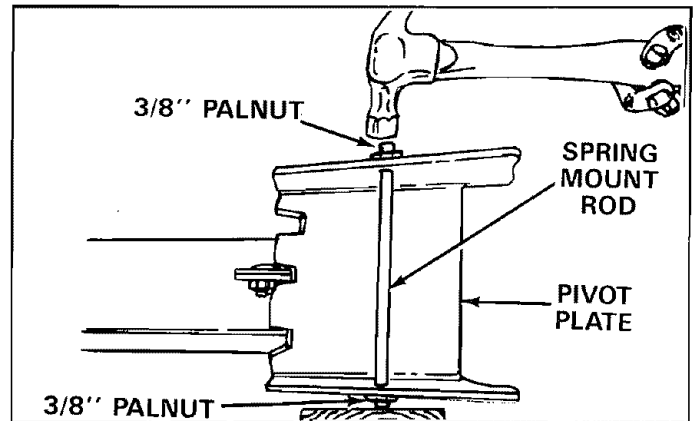

FIGURE 3
5. Using a hammer drive a 3/8" palnut onto one end of spring mount rod. Insert the other end of the spring mount rod through both small holes in the pivot plate. Support end (with palnut) of the spring mount rod with a block of wood and hammer on the remaining palnut. See figure 3.